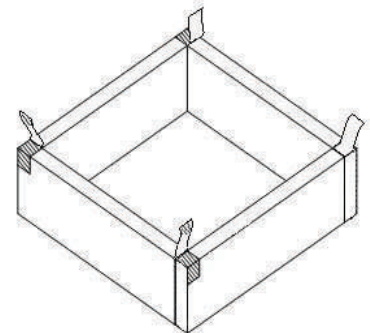

Figure 2
- Join all four corners by aligning the edges, pressing the hook and loop fasteners together, and pulling the long side-flap tight against the end of the adjoining wall, as shown in figure 2.